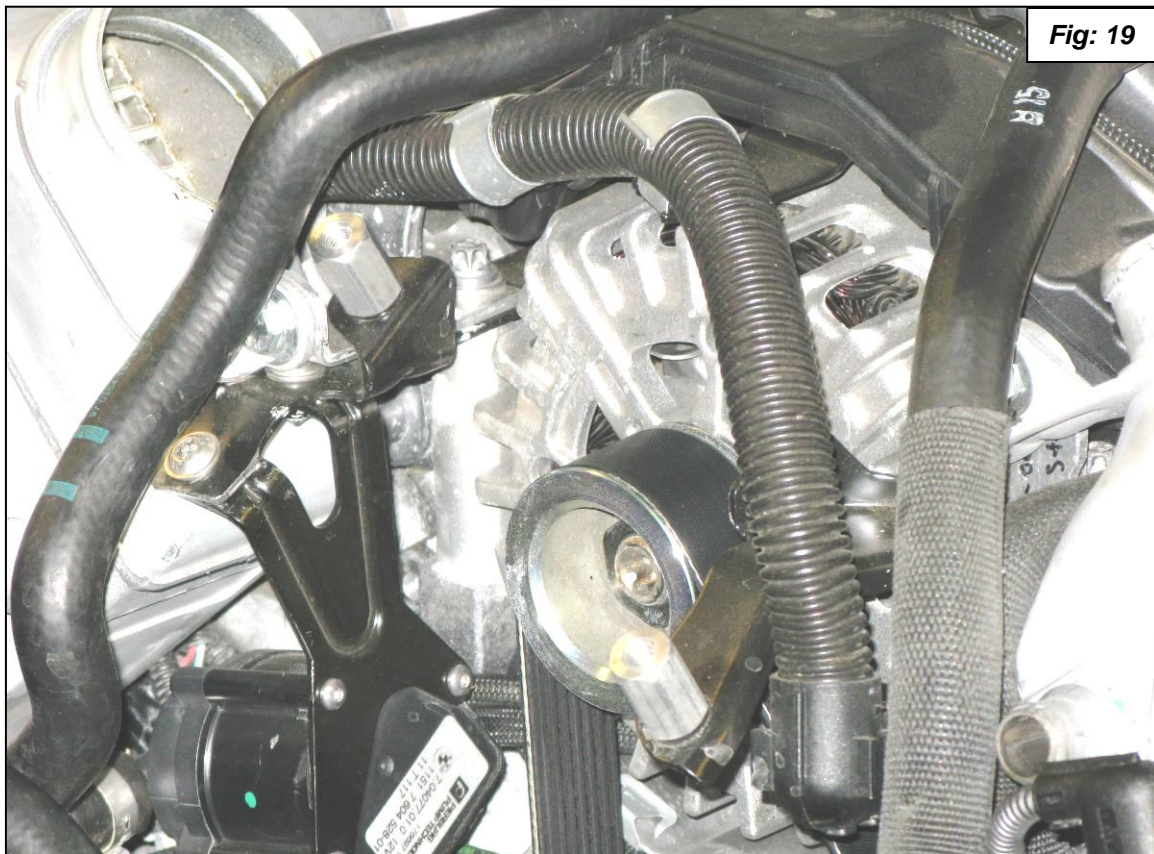

Fig: 19
16. Install the 6mm Male-Female threaded hex standoffs as shown in figure 19.